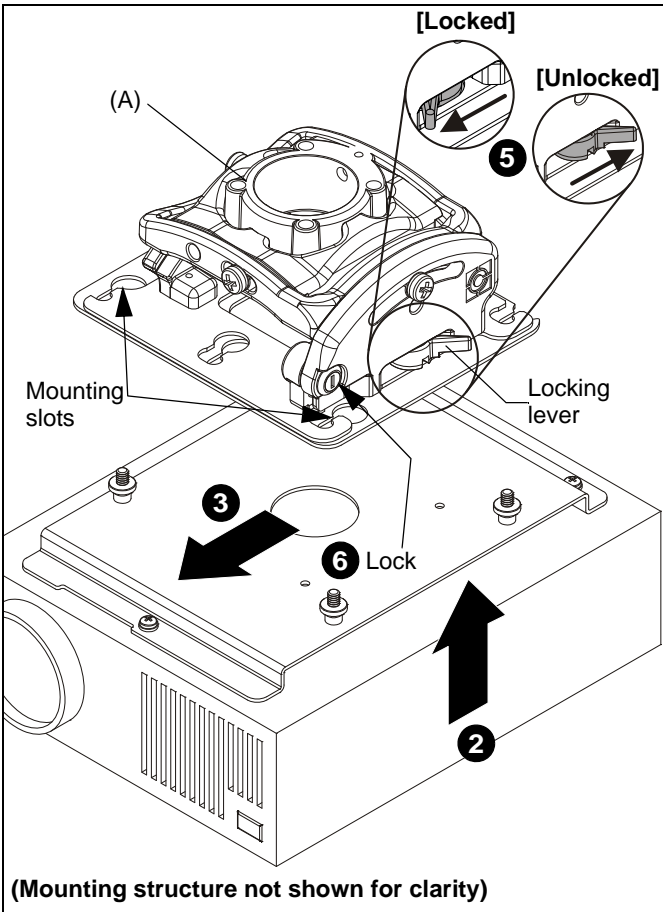

Figure 8
- Lift projector so that screws with thumb nuts are aligned with mounting slots in mount base. (See Figure 8)
5. Move locking lever to "LOCKED" position. (See Figure 8)